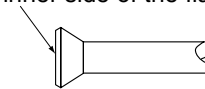

Fig. 15
- When connecting the flare nut, apply ether oil or ester oil only to inner side of the flare, and spin 3-4 times before screwing in. (Refer to Fig. 15)